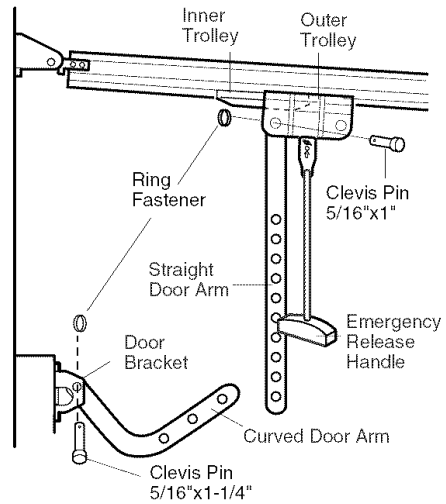

Figure 1
- Mark and drill 5/16" left and right fastening holes. Secure the bracket as shown in Figure 1 if there is vertical reinforcement.
- Make sure garage door is fully closed. Pull the emergency release handle to disconnect the outer trolley from the inner trolley. Slide the outer trolley back (away from the door) about 2" (5 cm) as shown in Figures 1, 2 and 3.
#### • Figure 1: